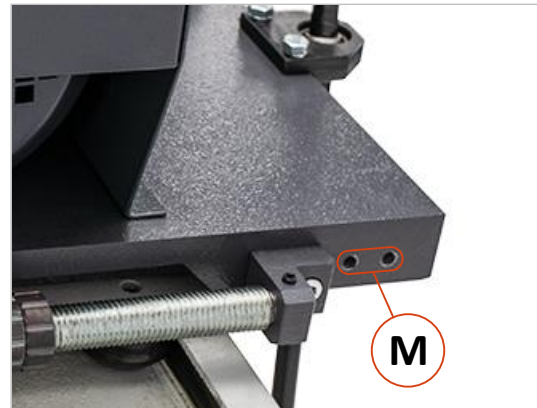
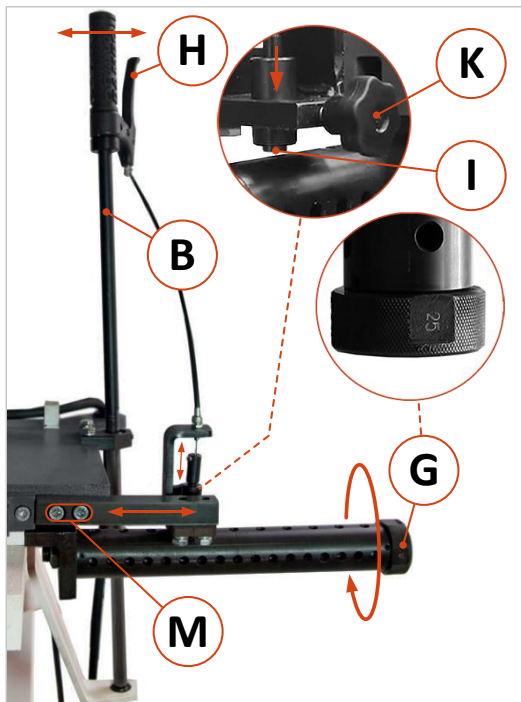

Figure 24: Mounting holes on the rear
Figure 25: Using the dowel indexing device
- Now attach the locking bolt handle (H) to the end of the movement handle (B) as shown in ⇒ Figure 25 and fasten it with the Allen screw provided.
- Fit the locking mechanism (R) into the threaded holes (M) on the rear of the machine using the Allen screws supplied (see ⇒ Figure 24 / ⇒ Figure 25). Adjust both the indexing barrel (D) and the locking mechanism (R) so that the locking bolt can engage and disengage freely.